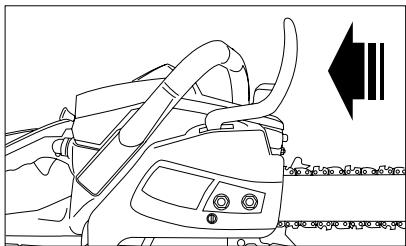

Fig. 4
2. Move the chain brake shield to the operating position by pulling the lever toward you. Make sure the chain rotates around the bar (fig. 4).